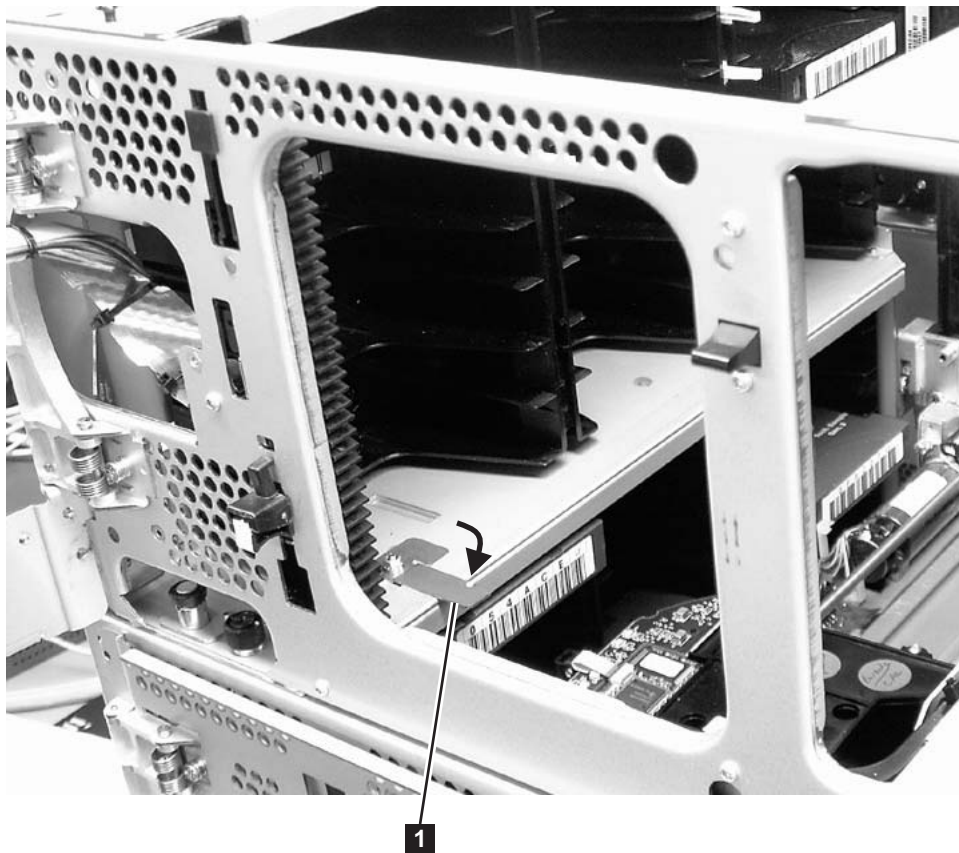

Figure 12-11. Picker assembly locking mechanism
5. Manually raise the picker and disengage the picker locking mechanism (**1** in Figure 12-11) if necessary. If the gear racks are properly aligned, the picker will slowly move to the bottom of the library.